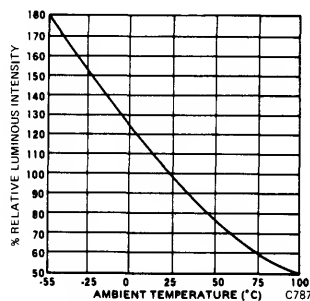

Figure 2 Luminous Intensity vs. Temperature
2. The curve in Figure 2 is normalized to the brightness at 25°C to indicate the relative efficiency over the operating temperature range.